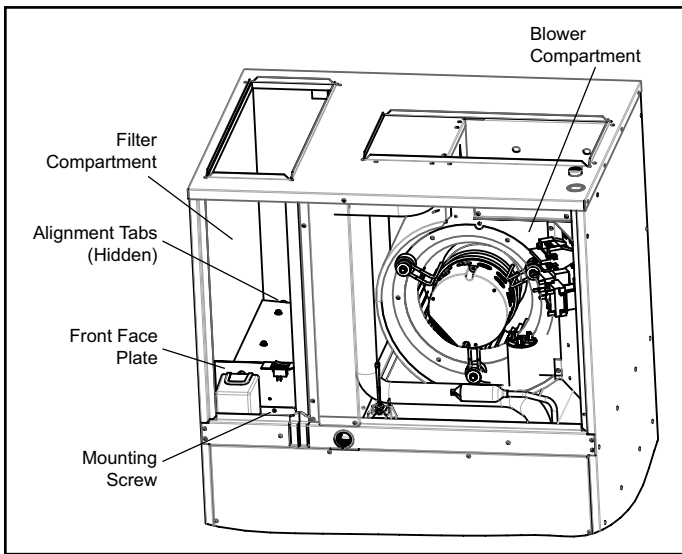

Figure 4. Ventilation Air Damper Installation
6. Install Damper (see Figure 4).